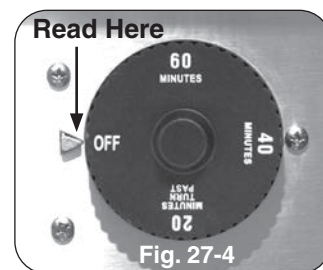

Fig. 27-4
**Important:** When using the timer for periods of less than twenty minutes, you must first turn the dial past twenty minutes (to activate), then return (counterclockwise) to the desired amount of time. This will ensure proper timer operation. See Fig. 27-4.